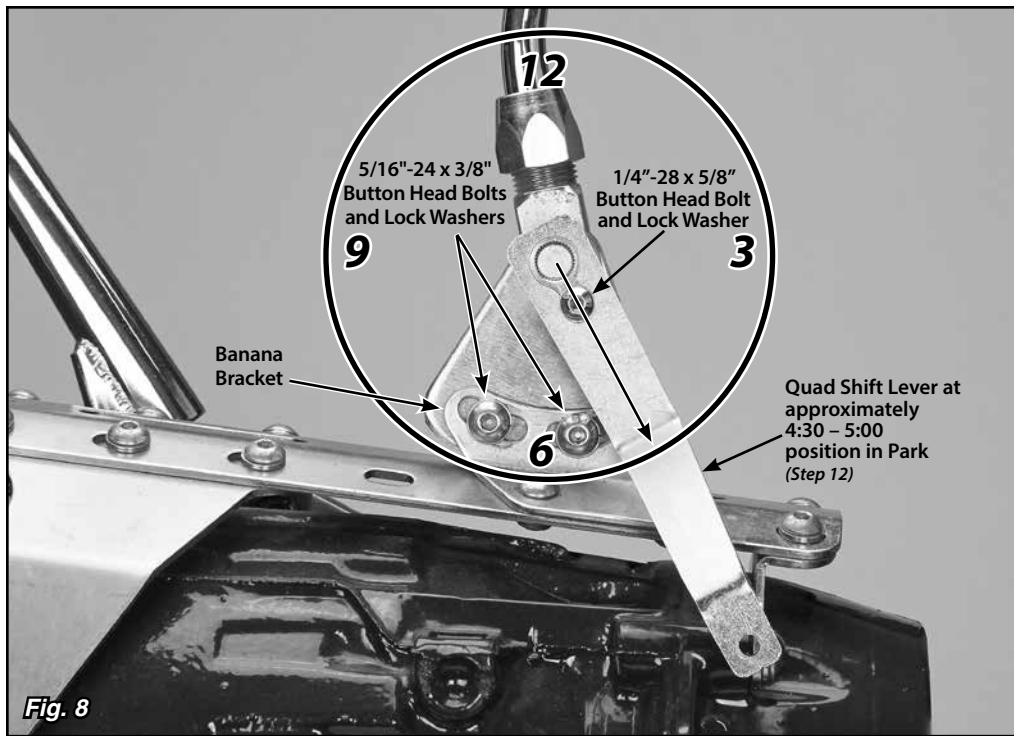

Fig. 8
Step 11: Make sure the two 5/16"-24 x 3/8" button head bolts that attach the driver side banana bracket to the shifter assembly (in the curved, slotted holes) are tight. Before tightening the shifter assembly down to the main plate, move the Shifter through all of the gear positions. Make sure the shifter lever and knob do not come in contact with the dash or the seat. The shifter assembly can be tilted forward or backward if needed by loosening the 5/16"-24 x 3/8" button head bolts in the curved, slotted holes in the driver side banana bracket. **Fig. 8**
Step 12: Make sure the shifter lever is in the Park position. Temporarily place the quad shift lever in position on the quad lever bushing as shown in **Fig. 8**. Check for interference with the vehicle floor. With the shifter lever in Park, you want the quad shift lever to be at approximately the 4:30 – 5:00 position.